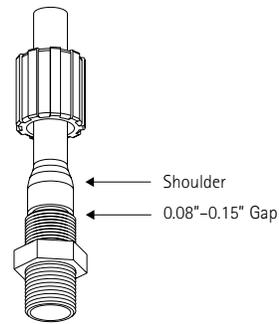

Figure 12
- Push the flared tubing end onto the Flaretek fitting body until the end of the fitting body contacts the flare shoulder of the tube (see Figure 12). The maximum gap between the tube end and fitting shoulder should be 0.08"–0.015".